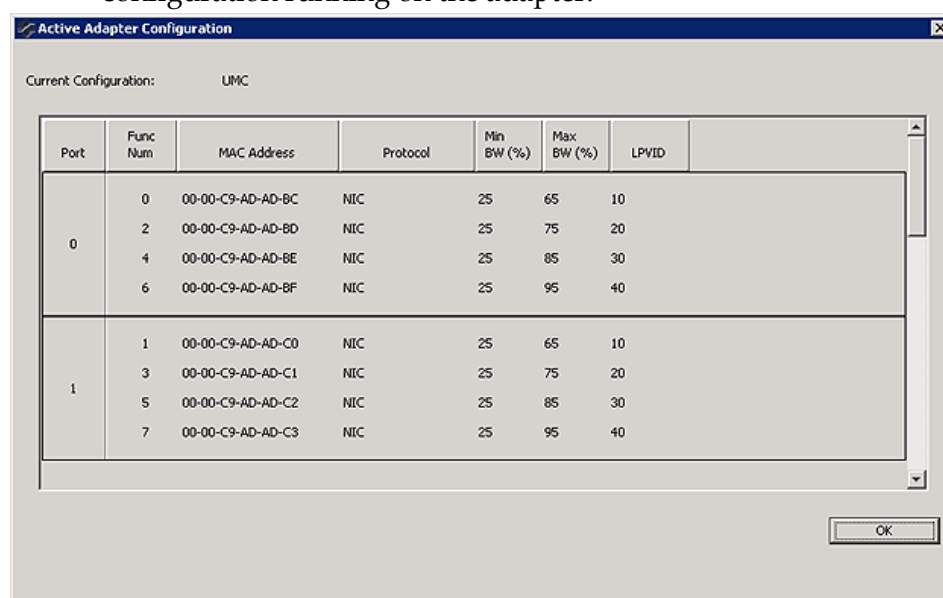

**Figure 7-20** SR-IOV Warning Message
- If you have an active configuration where only some of the NIC functions have SR-IOV enabled and you click the Adapter Configuration tab, a warning message appears, as shown in Figure 7-20 on page 92, prompting you to click the Apply button to save the configuration with SR-IOV enabled on all NIC functions.